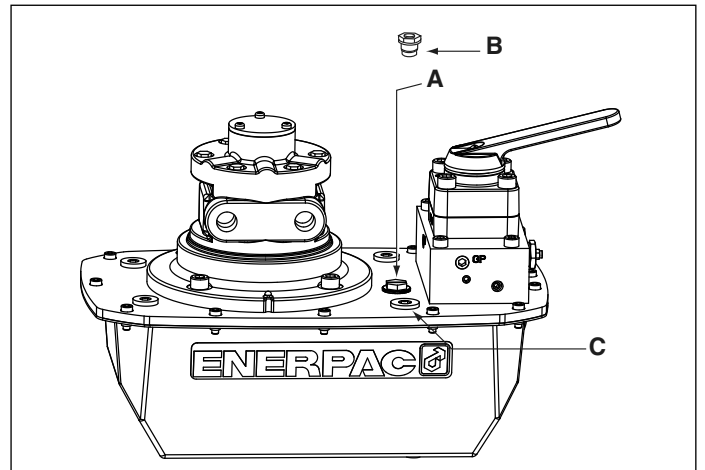
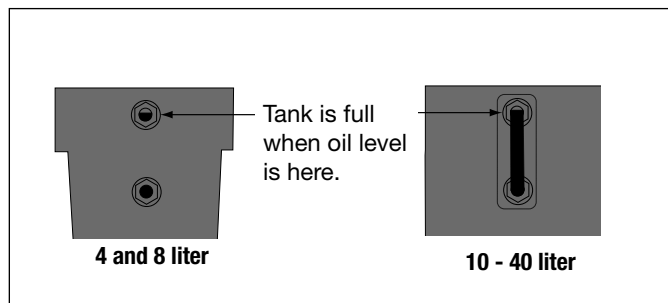

Figure 2, ZA4 Breather Installation
Figure 4
4.1 Reservoir Breather Cap (See Figure 2)
Check the oil level of the pump prior to start-up, if necessary add oil by removing the SAE #10 plug from the cover plate (see Fig. 2). The reservoir is full when the oil level reaches the top of the sight glass. (Fig. 4).